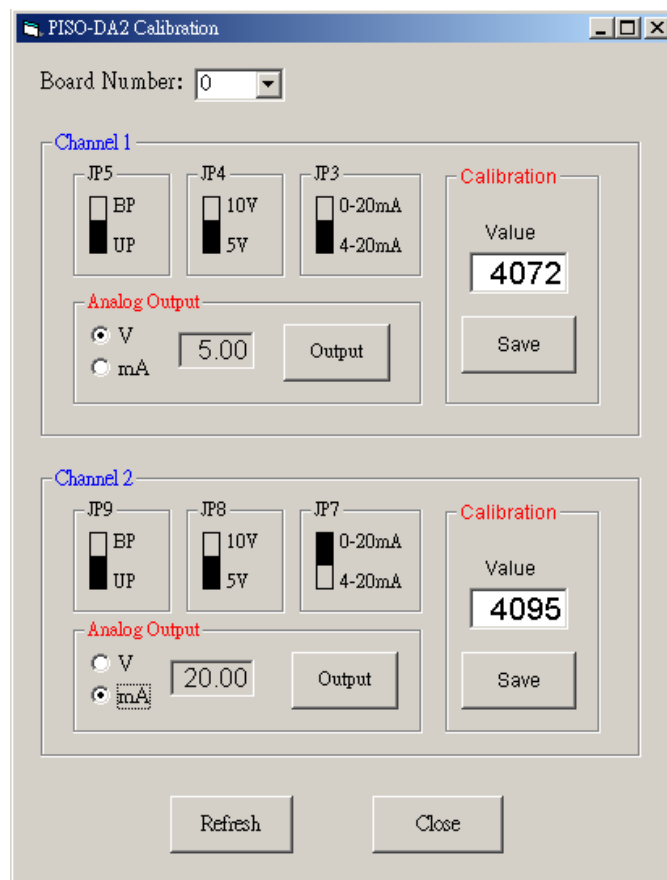

Figure 2-5: Calibration tool
After understanding the calibration mapping address and having precise multi-meter, the calibration procedure for each analog output channel is as the example for calibrating analog channel in 0~10 V setting and the calibration interface is shown in Figure 2-5.
Step 2: Run calibration tool, which is located in "/program files/DAQpro/PISO-DA2/calibration.exe", to open configuration interface, as shown in Figure 2-5.